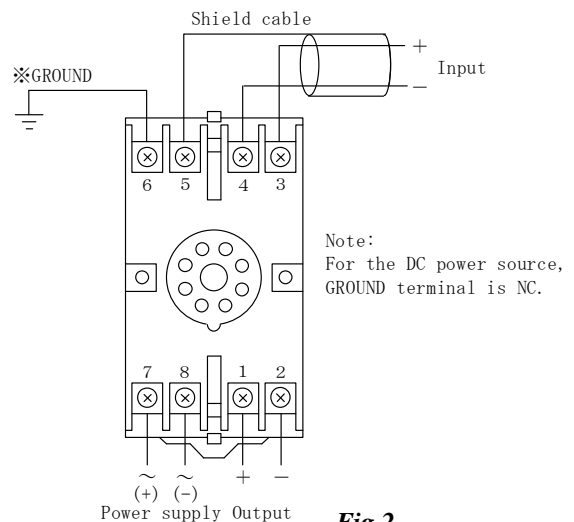

Fig.2
2. Make the connection as per the connection diagram *Fig.2*, using the cables to meet the rated capacity of the circuit.